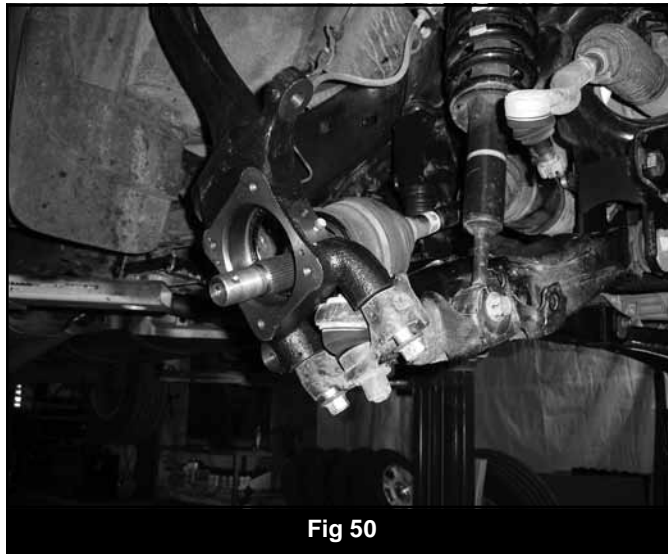

Fig 50
67. Install the new steering knuckles on the appropriate side of the vehicle. Run the CV shaft through the knuckle hub bore and fasten the knuckles to the lower ball joint mount with the original mounting bolts (Fig 50). Use Loctite on the bolts and torque to 175 ft-lbs.